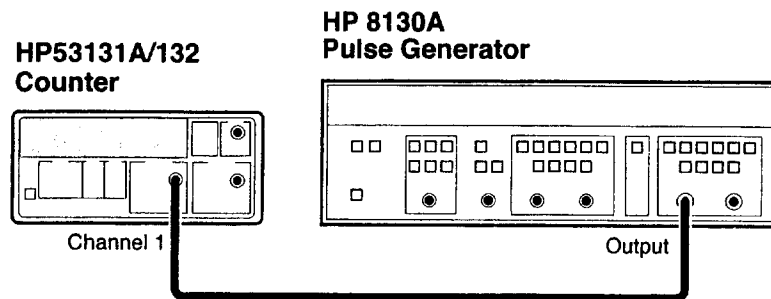

Figure 1-5. Time Interval (Channel 1 TO 2) Test Setup
- 1 Connect the pulse generator signal to Channel 1 of the Counter as shown in Figure 1-5.